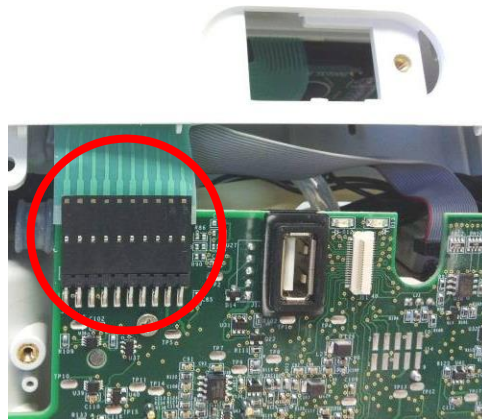

Figure 3: Unplug UIP cable from motherboard
2. Gently pull upward on the user interface panel to lift it about a centimeter off the device, being careful not to pull on the cables that are connected to the user interface panel. With the UIP cable connector exposed on the motherboard, gently unplug the UIP cable from the motherboard (Figure 3).
2. Plug the UIP cable into the motherboard (Figure 3). Double check that the cables are fully seated to ensure a complete connection. 3. Test the function of each button and the LCD. If anything does not work, reseat the cables in the connectors and check for debris in the connectors.